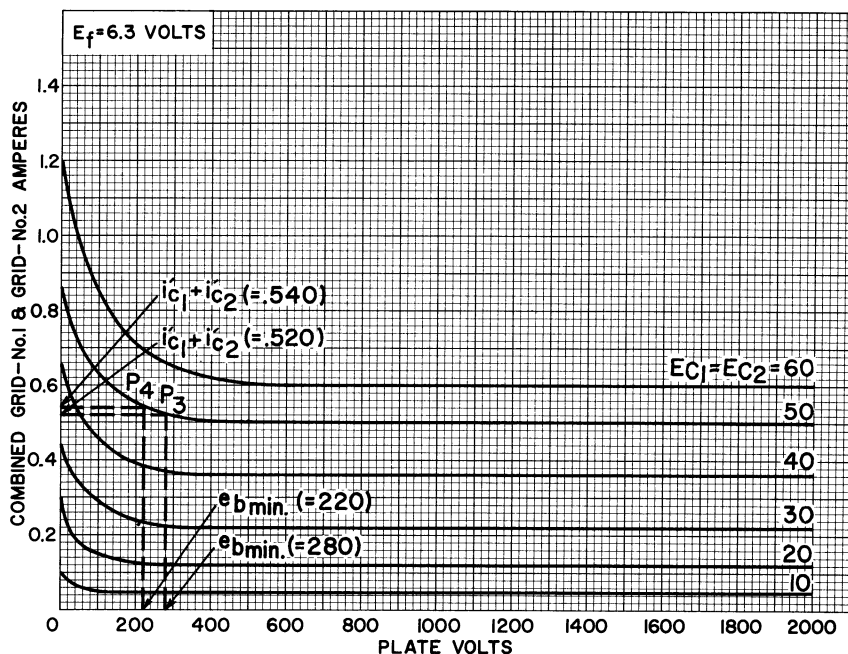

Figure 2: Typical grid characteristics for type 7094 triode connection (grid No. 1 connected to grid No. 2.)
(7) Select a point P3 on knee of one of the curves shown in Figure 1 at which  $i'_b$  equals 0.642 ampere. At this point,  $e_{cm}$  is +50 volts and  $e_{bmin}$  is 280 volts. From the curves shown in Figure 2,  $i'_{c1} + i'_{c2}$  equals 0.520 ampere.